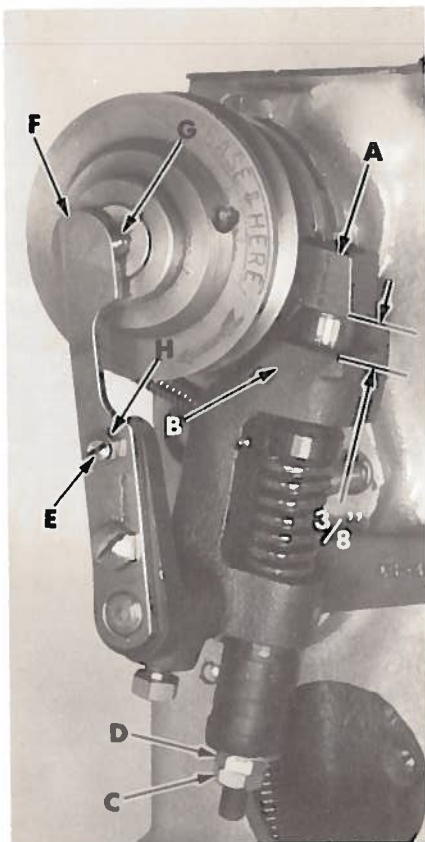

Fig. 1
This position is that which is shown in Fig. 1 with the stop motion disc and pawl against the plunger (A).
With machine in stop position, stop motion plunger (A, Fig.1) should be set so that there is $\frac{3}{8}$ inch between the bottom of plunger and plunger lever bracket (B).